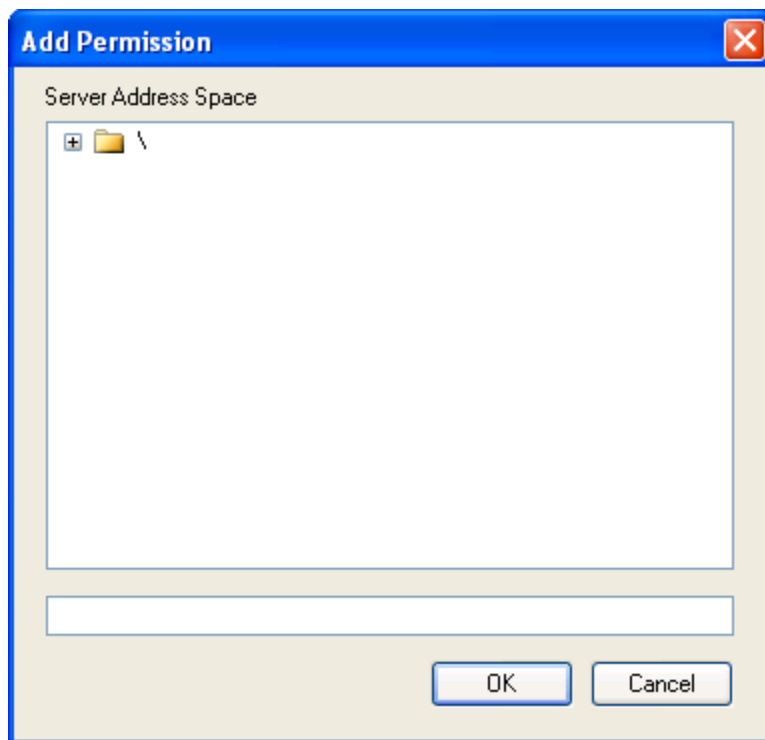

Figure 85 - Add User Permission Window
2. The **Add User Permission** window (Figure 85) appears. This window allows you to browse the OPC server address space to find either a path in the hierarchy, or a particular OPC item.